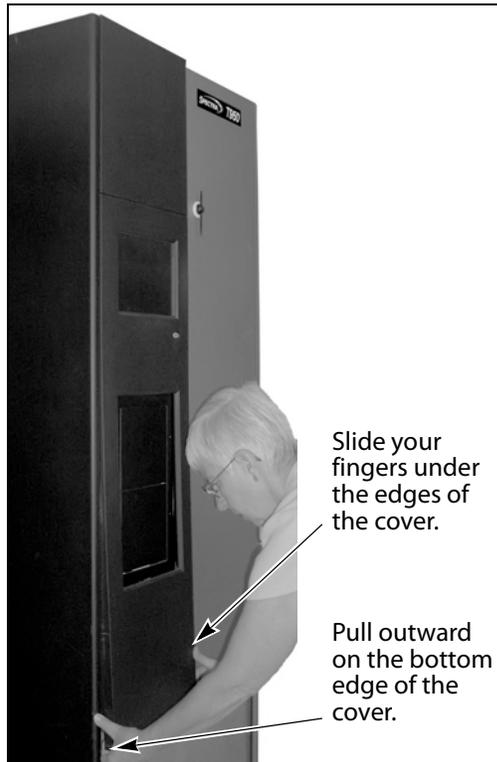

Figure 17 Pull the cover away from the ball studs.
- a. Pull outward on the bottom edge of the cosmetic cover so that you can slide your fingers under the edges of the cover as shown in Figure 17.